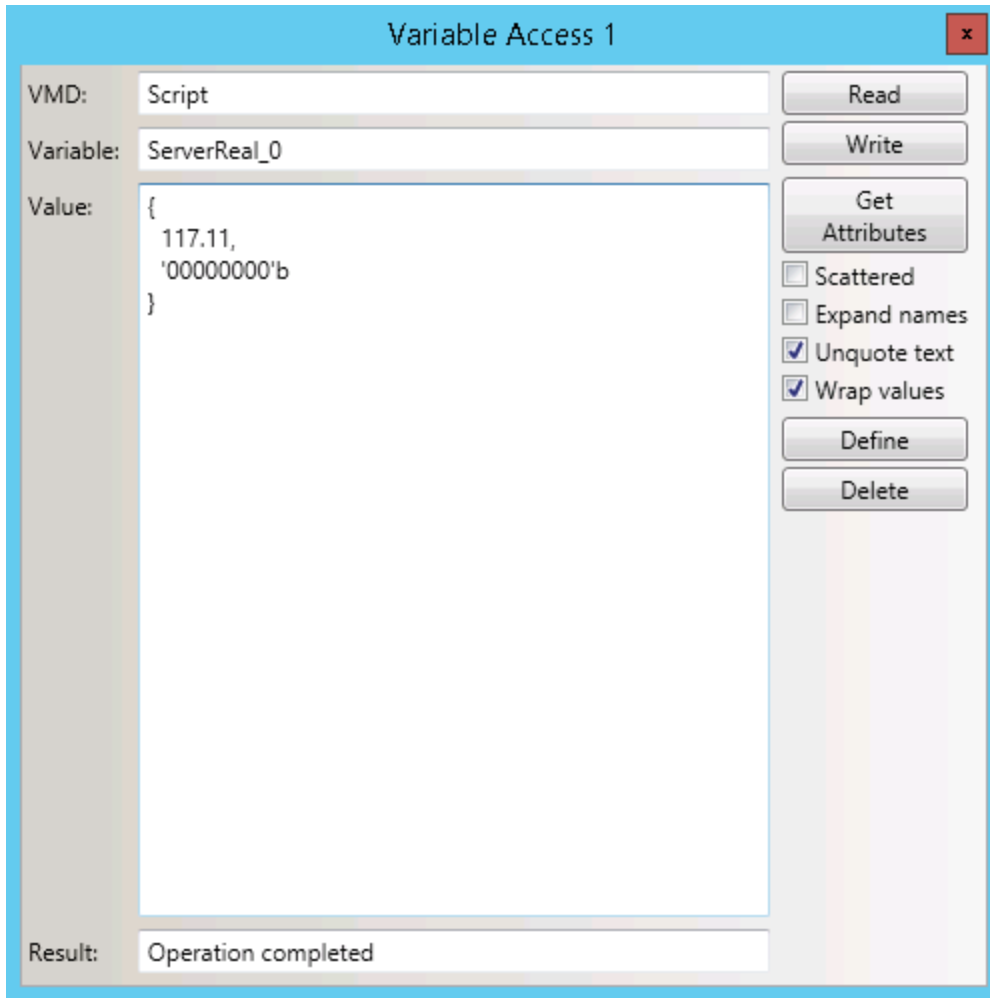

Figure 21: Variable Access allows you to Read, Write, Delete, and Get the Attributes of a Node
- » Check the **Wrap** checkbox so that a structure is formatted for readability, not exceeding the width of the text box as shown in Figure 21.